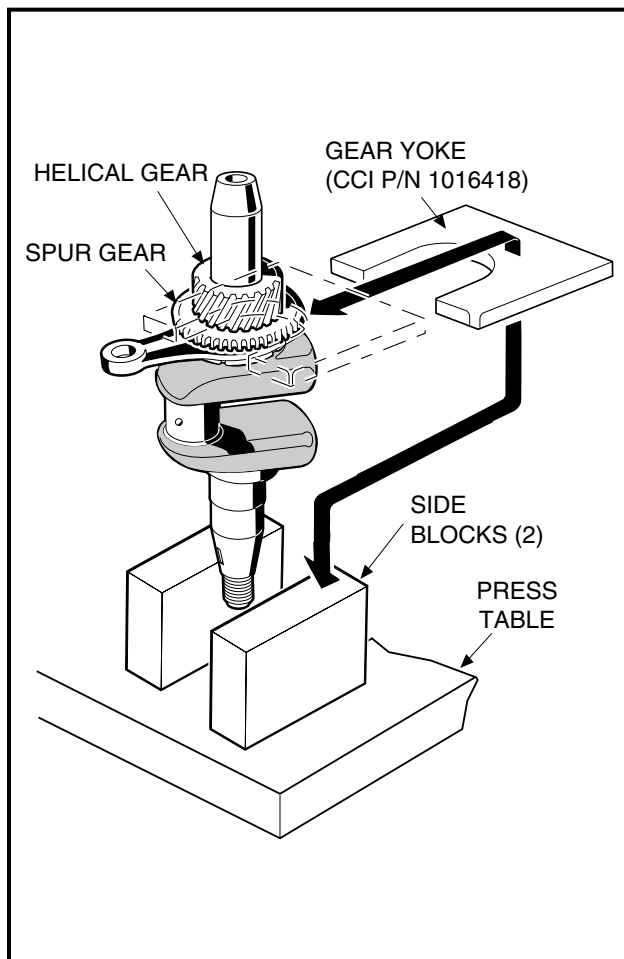

Figure 3-68 Place Assembly in Press
2. If the link rods need replacing, place the gear yoke (CCI P/N 1016418) under the spur gear with the small end of the connecting rod located opposite the crankpin (Figure 3-68, Page 3-33).